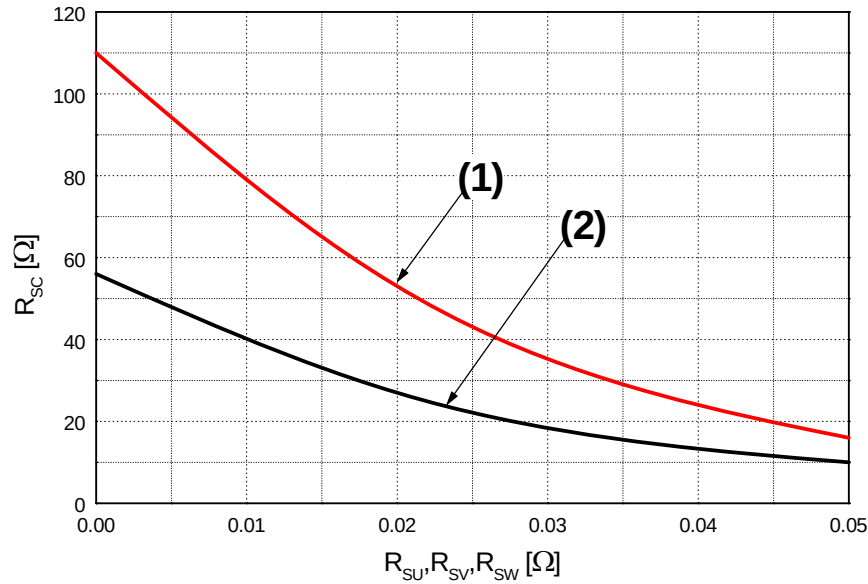

Figure 6. R_{sc} Variation by Change of Shunt Resistors (R_{su} , R_{sv} , R_{sw}) for Short-Circuit Protection
- Short-circuit protection is functioning only at the low-sides. It would be recommended that the value of the external sensing resistor (R_{SC}) should be selected around 56 Ω in order to make the SC trip-level of about 45A, at the shunt resistors (R_{SU}, R_{SV}, R_{SW}) of 0 Ω. For the detailed information about the relationship between the external sensing resistor (R_{SC}) and the shunt resistors (R_{SU}, R_{SV}, R_{SW}), please see Figure 6.